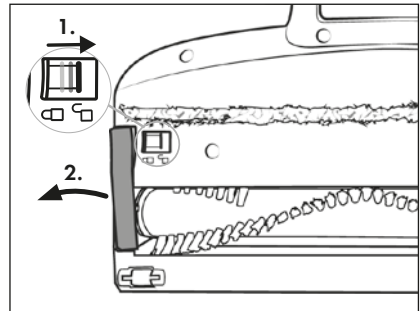

Fig. 24
- 2) Unlock the rotary brush **20** by sliding the rotary brush release **18** with your finger towards the symbol  (open). Remove the rotary brush holder **19** from the floor brush **21** (see Fig. 24).